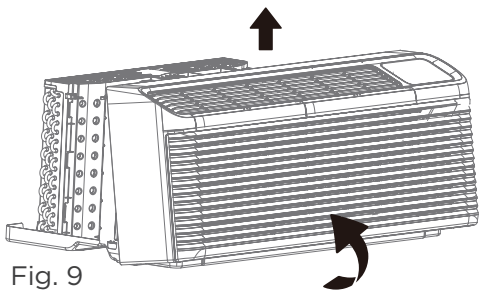

Fig. 9
Step 1: Pull out at the bottom to release it from the tabs, then lift the front panel up. See Fig. 9.